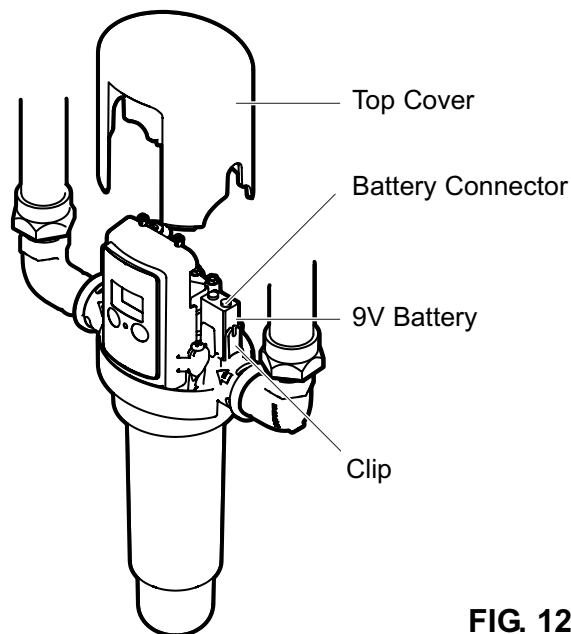

FIG. 12
2. Remove the top cover from the ASF by sliding it upward (See Figure 12).
4. Place the connected battery into the clip provided for it directly above the IN port (See Figure 12).
1. Remove the top cover from the ASF by sliding it upward (See Figure 12 on Page 9).
4. Place the connected battery into the clip provided for it directly above the IN port (See Figure 12 on Page 9).